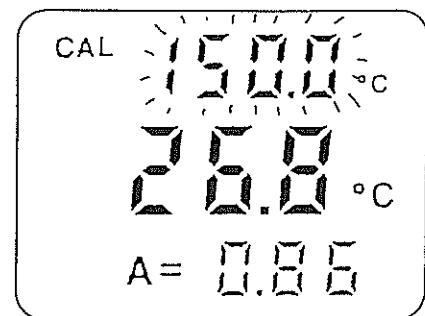

Figure 1
- 2) Using the contact sensor, measure the surface temperature of the subject body (the measurement value blinks in the sub-display. See figure 1).